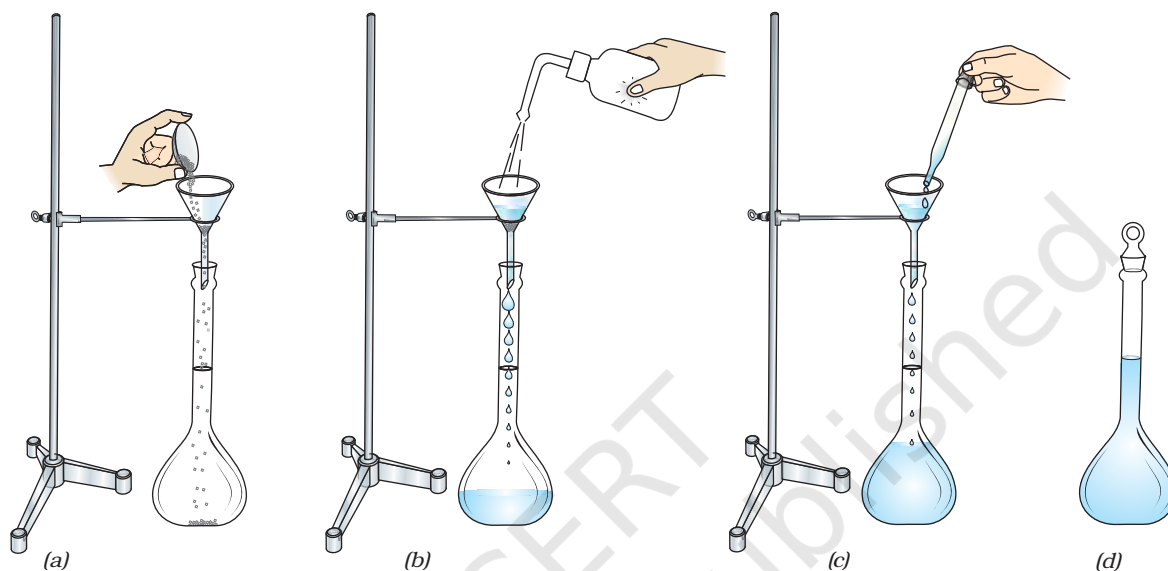

Fig. 2.27 : Making standard a solution
- (iii) Transfer oxalic acid carefully from the watch glass/weighing tube into a clean and dry measuring flask using a funnel. Weigh the empty watch glass again (Weight 3) and find out the mass of oxalic acid transferred to the measuring flask by subtracting this mass (Weight 3) from the combined mass of watch glass and oxalic acid (Weight 2). Calculate the exact molarity of solution from this mass. Wash funnel several times with distilled water by using a wash bottle to transfer the sticking particles if any into the measuring flask. While washing the funnel, add water in small amounts so that its volume in the flask does not exceed $\frac{1}{10}$ th of the volume of the measuring flask as shown in Fig. 2.27 a, b.
- (iv) Swirl the measuring flask till solid oxalic acid is completely dissolved. Add more distilled water with shaking. Make up the volume with distilled water to the etched mark by adding last few mL dropwise. Stopper the flask and shake it thoroughly to make the solution uniform throughout (Fig. 2.27 c, d). Label it as 0.1 M oxalic acid solution.